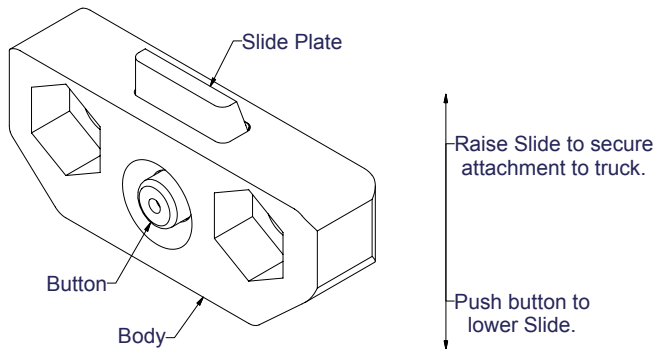

Figure 4-2, Quick Change Hook
4. Slightly raise the truck carriage to allow the removal of the bottom mounting hooks. If the attachment is equipped with Quick Change Hooks, simply press the slide plate release button and drop the slide plate down. (Figure 4-2)